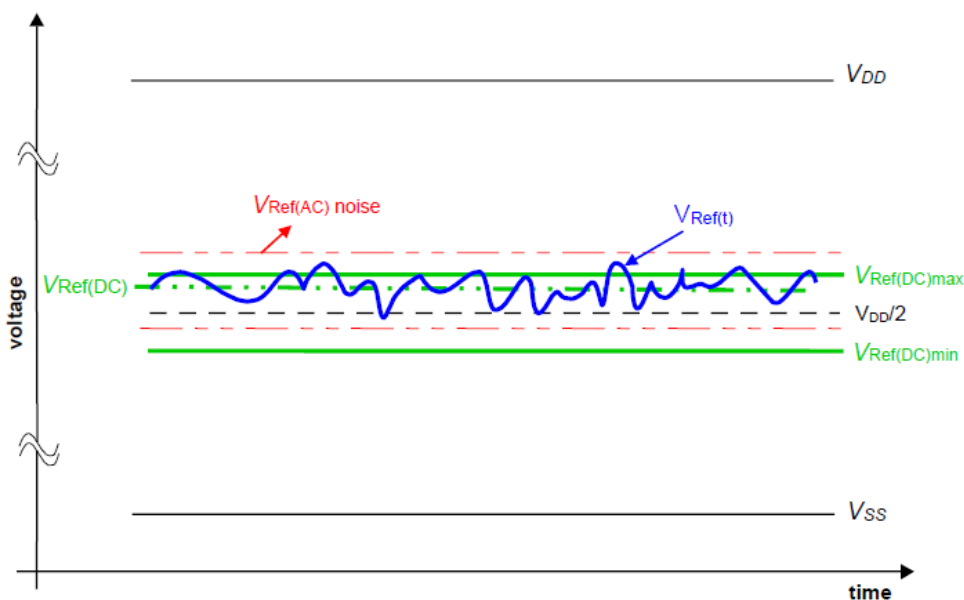

Figure 3-2 — Illustration of VREF(DC) Tolerance and VREF AC-noise Limits
The dc-tolerance limits and ac-noise limits for the reference voltages VREFCA and VREFDQ are illustrated in Figure 3-2. It shows a valid reference voltage VREF(t) as a function of time. (VREF stands for VREFCA and VREFDQ likewise).
The voltage levels for setup and hold time measurements VIH(AC), VIH(DC), VIL(AC) and VIL(DC) are dependent on VREF. “VREF “ shall be understood as VREF(DC), as defined in Figure 3-2.